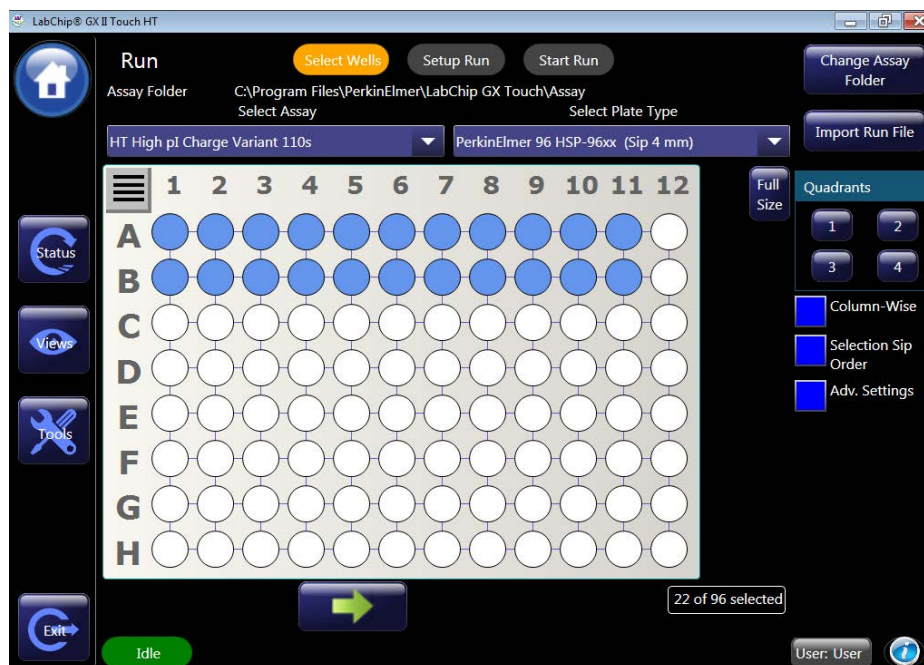

Figure 8. Select Wells Screen
- 2 In the Select Wells screen, select the appropriate **Assay Type** (see Table 6), **Plate Type**, **Well Pattern**, and whether to read wells in **Columns** or **Rows**. Refer to Table 6 for Assay Type and Running Buffer pH. Select the number of times each well is sampled under *Adv. Settings* (Figure 8). Touch the green arrow.